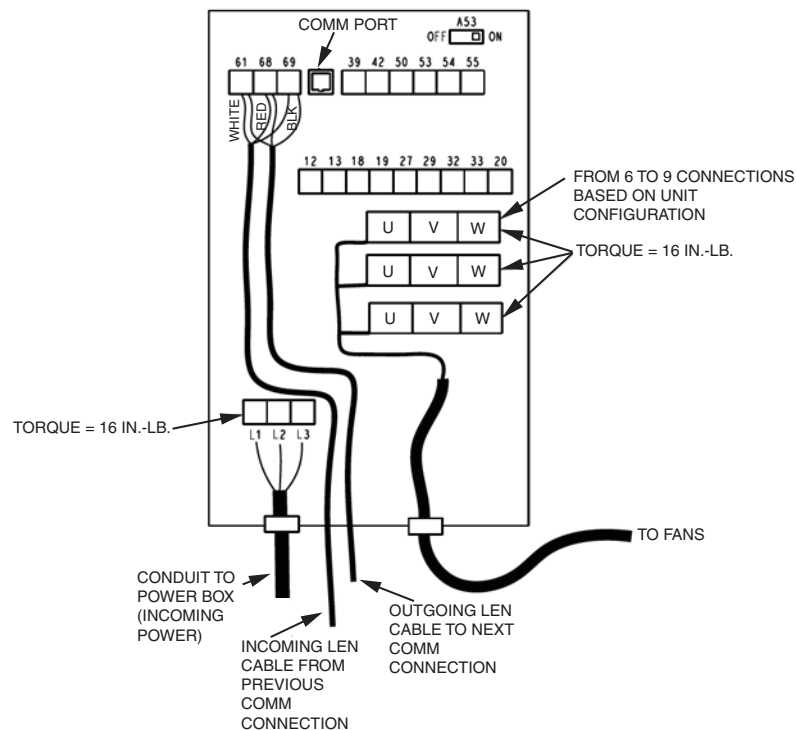
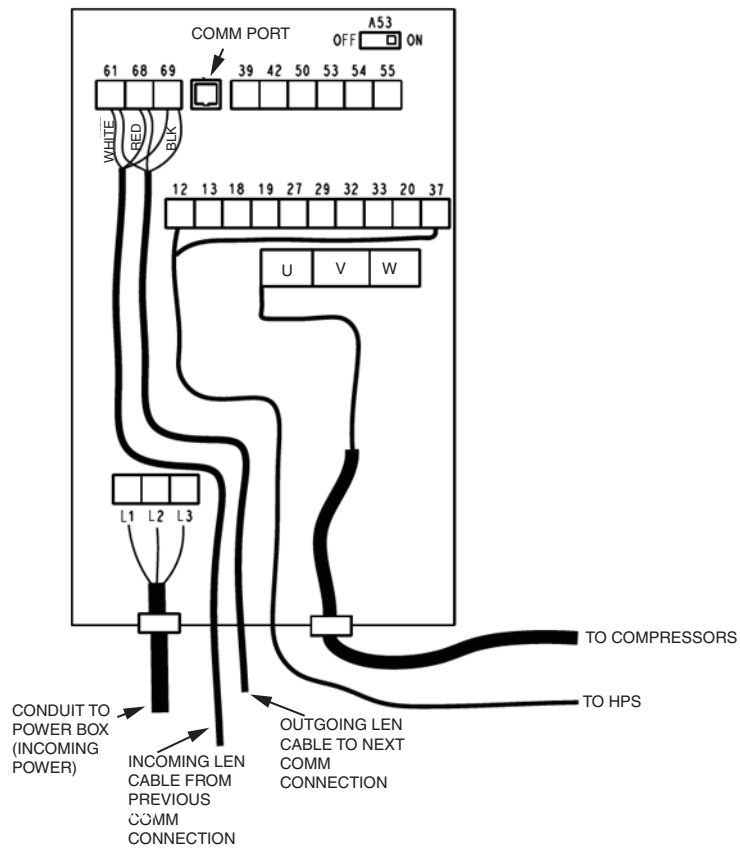
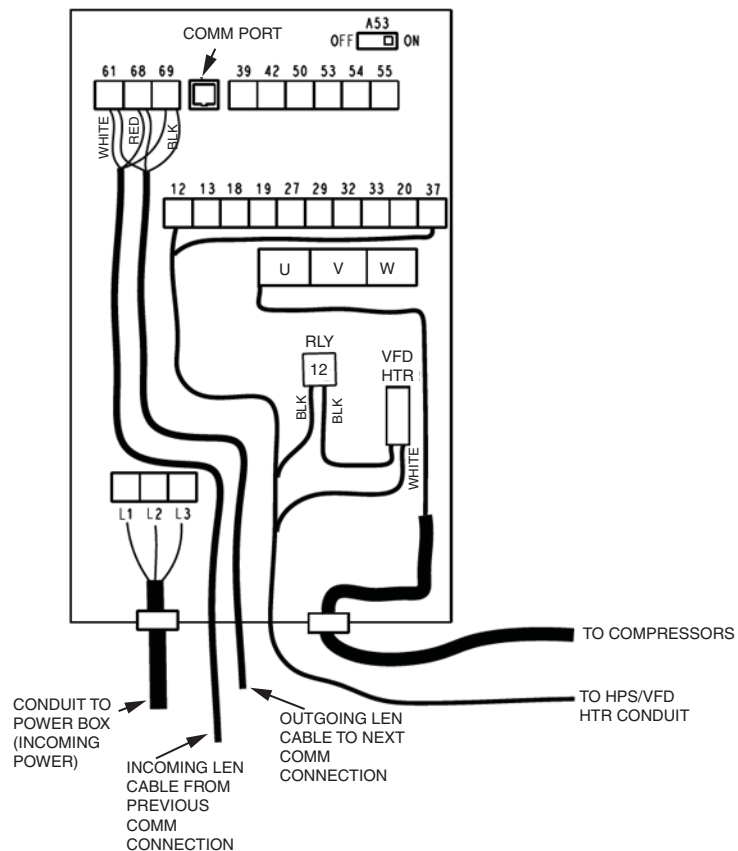

**Fig. 73 — Fan Drive Wiring**
**Fig. 74 — Compressor Drive Wiring, TS Compressors**
**Fig. 75 — Compressor Drive Wiring, TU and TT Compressors**
5. Connect power, control, and high pressure switch wiring to drive. For wiring details for fan drives see Fig 73. Use the same knockout openings on new drive as on drive being replaced. For compressor drives, the high-pressure switch and heater wiring also need to be connected. See Fig. 74 for wiring details for TS compressor drives and Fig. 75 for TT and TU compressor drives. For compressor drives, remove the blank gland plate from the new drive and install the pre-punched gland plate from the drive being replaced. Torque connections are shown in Table 49.